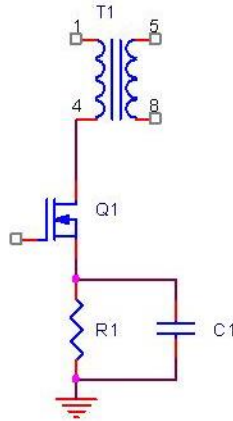

FIGURE 4
4) Add a small value non-polar capacitor in parallel with current sense resistor (Figure 4). This will further reduce the acoustic noise.